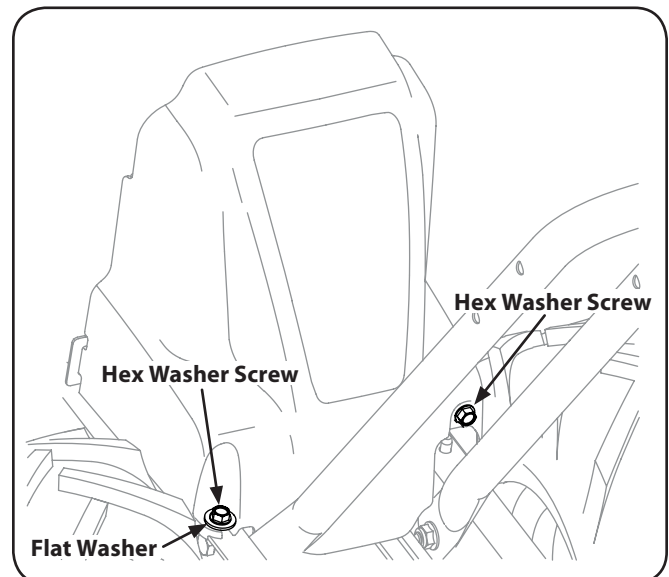

Figure 7-2
3. Remove the hex washer screw ($\frac{1}{4}$ -20 x .500) and flat washer (.28 x .74 x .500) from the left side of the belt cover and the hex washer screw ($\frac{1}{4}$ -20 x .500) from the right side of the belt cover. Remove the belt cover. See Figure 7-2.